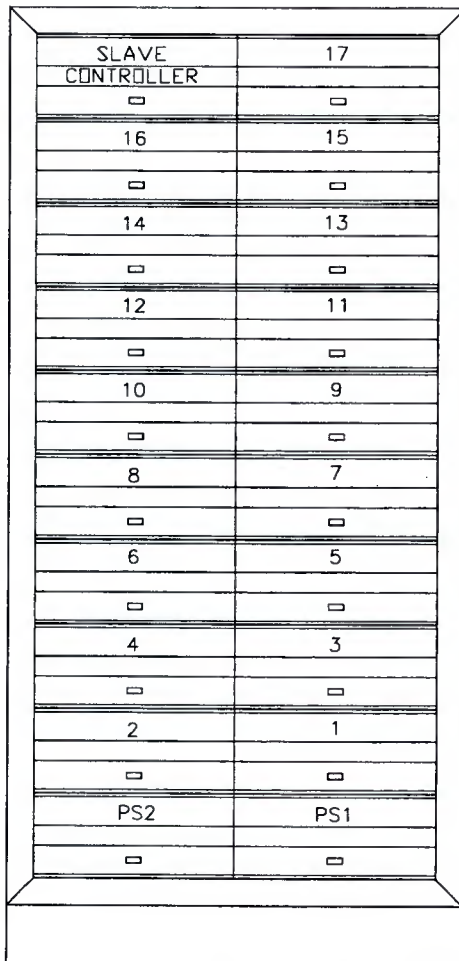

Figure 6-1. PA Cabinet Module Slot Numbers
- MODF: This is a Hexadecimal number with each bit of each hex digit corresponding to a module slot in the cabinet. The low order bit of the low order digit refers to slot one, the next high order bit refers to slot two, and so on up to slot 17. A bit equal to one means that the module in the referenced slot has a fault. See Figure 6-1 and Table 6-1.